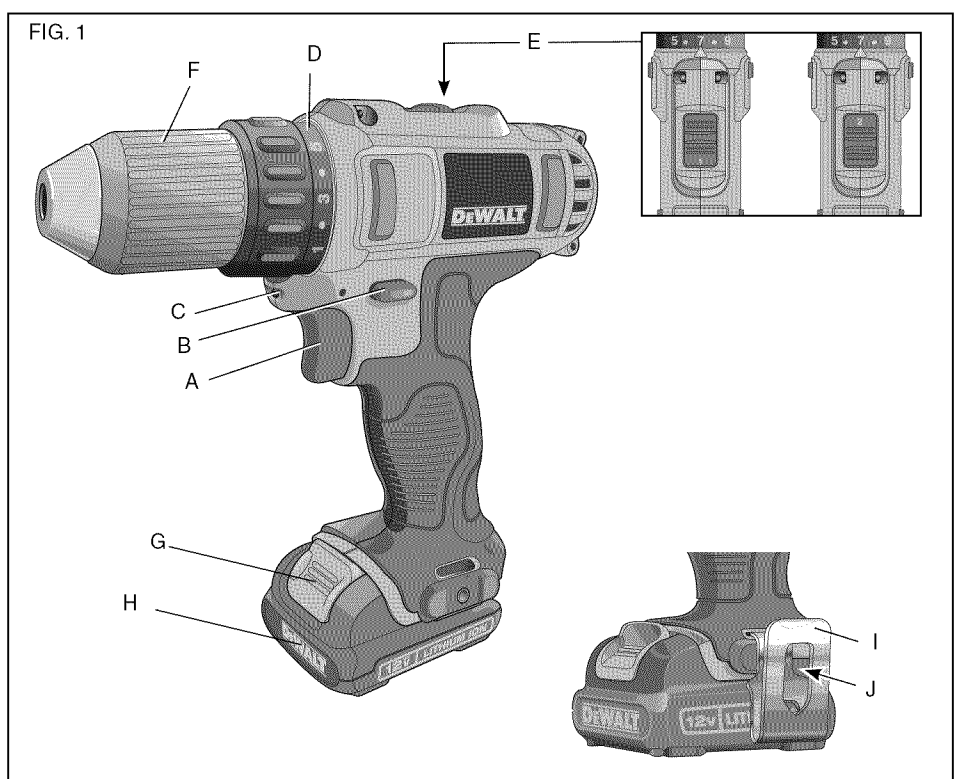

FIG. 2
### Charging Procedure (Fig. 2)
2. Insert the battery pack (H) into the charger, as shown in Figure 2, making sure the pack is fully seated in charger. The red (charging) light will blink continuously indicating that the charging process has started.